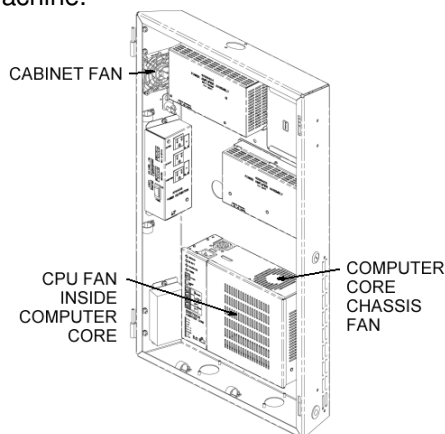

Figure 1-D – Inside View of Cabinet
3. Ensure the cabinet fan on the upper-left side of the cabinet is blowing air out and the fan looks clean. See *Figure 1-D*.